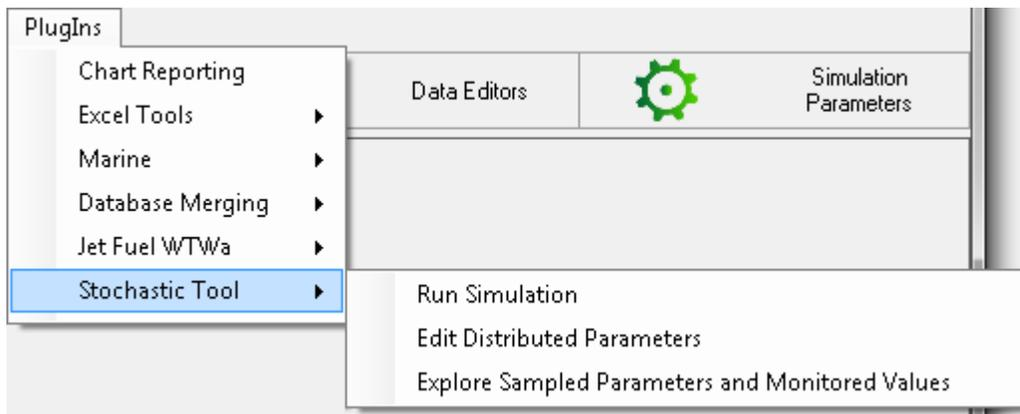

Figure 122: Main Menu for the Stochastic Simulations Module
**NOTE:** The Stochastic Simulations Tool currently doesn't have an all inclusive place (its own form) for flagging input parameters for inclusion or setting up the details of a distribution. Stochastic Simulations inputs (Parameters, Distributions, and Values being monitored) are flag for inclusion into a Stochastic Simulations from the places they currently reside in GREET. The main menu item "Stochastic Tool" and it's sub-menus will display form that only deal with the running, viewing, and the editing of existing parameters distributions. See Figure: 122.